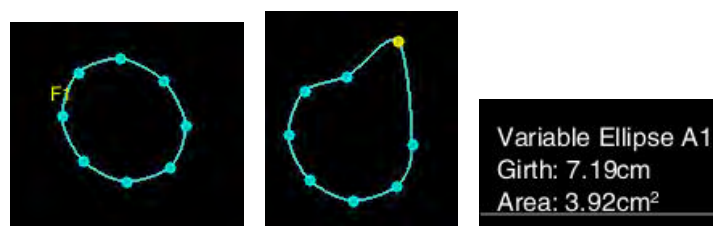

Figure 104: Measurement of the variable ellipse
- Move the cursor to one control point and click on **Set** to activate it. At this point the control point turns yellow. Next, use the trackball to move the control point (then click on **Update** to toggle between the control points) and adjust the graphics so as to be as close as possible to the measurement target, as shown in Figure 104. The results of measurement of the circumference and area are displayed in the lower right corner of the screen.